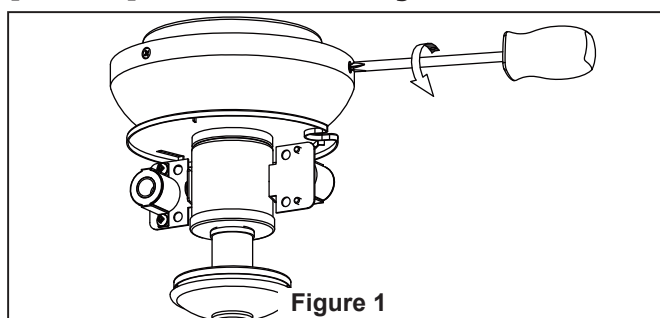

Figure 1
- ☐ 1. Disassemble the Adapter Switch Cup Assembly by removing three screws. (Figure 1)